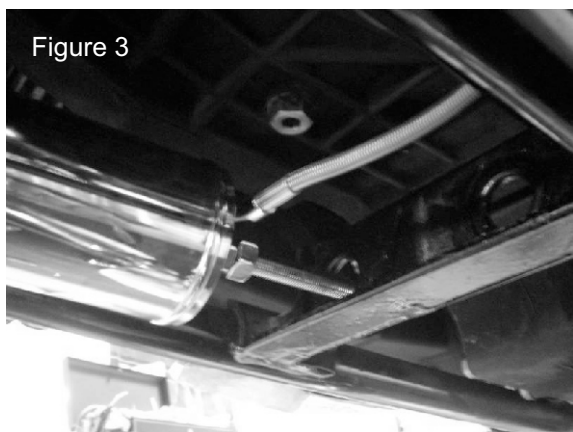

Figure 3
- When mounting the RAP shock make sure the adjuster line is pointing to the right and slightly up as illustrated (fig.3).